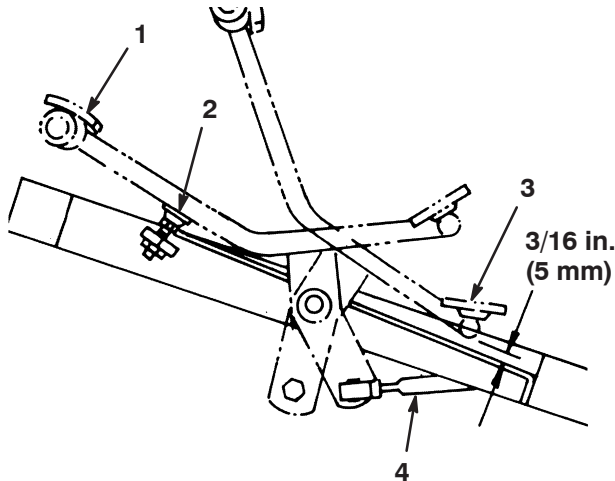

Figure 46
1. Press the traction pedal fully forward until the No. 5 section valve spool is completely pulled out. The pedal should contact the pedal stop (Fig. 46).
2. Check the distance between the bottom of the pedal and footrest as shown in Fig. 46. The distance should be approximately 3/16 in. (5 mm). If the distance is greater or less than 3/16 in. (5 mm), an adjustment to the traction control rod is required. Proceed as follows:
- A. Remove the jam nut and ball joint securing the control rod (Fig. 46) to the traction shaft pivot.